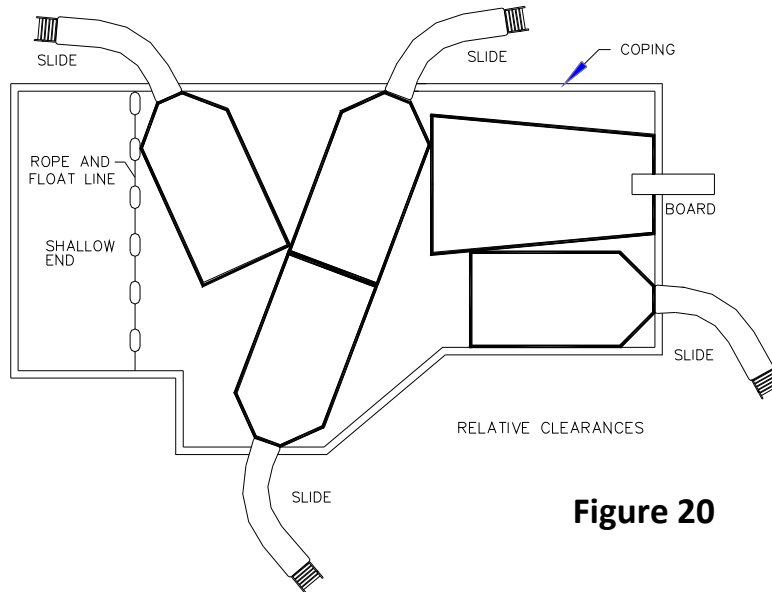

Figure 20
- A. The minimum clearance area in front of a properly installed diving board on an inground swimming pool is a minimum distance of three feet six inches (3'-6") on either side of the board's centerline as shown in Figure 20. Pt.C extends a minimum distance of "C" from the tip end of the board as shown in Figure 20. The width distance "W" on either side of Pt.C is given in CHART 1 and shown in Figure 20.
B. The minimum clearance area of a slide or diving board shall not intersect any coping or rope and float line. (See Figure 20) The minimum clearance area of a slide or diving board may intersect each other provided that they are not used simultaneously.